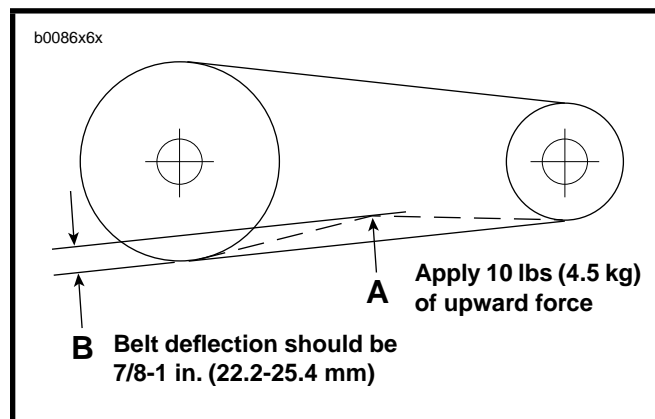

Figure 1-21. Checking Belt Deflection
1. See Figure 1-21. At the lower strand, position "A", midway between transmission sprocket and rear wheel sprocket, apply 10 lbs (4.5 kg) of upward force on lower span of rear belt using BELT TENSION GAUGE \(Part No. HD-35381\).